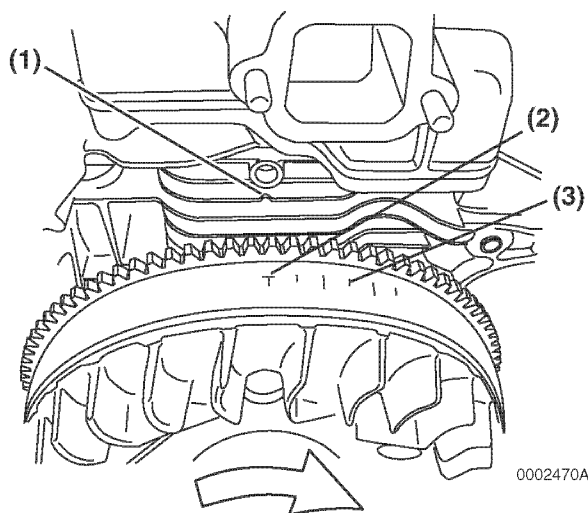
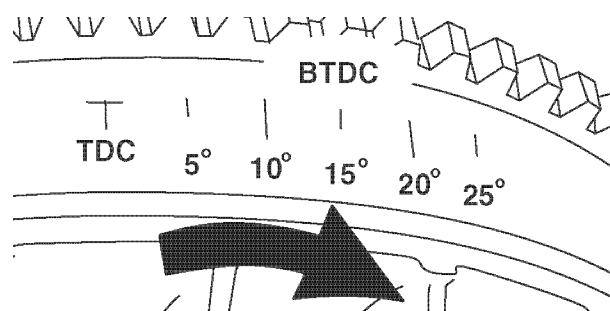

Figure 7-6
Figure 7-7
4. Highlight the TDC timing mark on the cylinder cooling fin (**Figure 7-6, (1)**).
5. Highlight the TDC (Top Dead Center) (**Figure 7-6, (2)**) and target timing (**Figure 7-6, (3)**) marks BTDC (Before Top Dead Center) on the flywheel timing grid (**Figure 7-7**) based on the Fuel Injection Timing Chart (**Figure 7-8**).